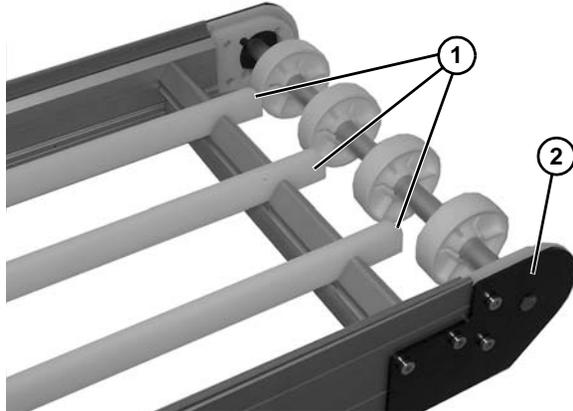

**Figure 41**
2. If necessary, rotate upward and remove bracket (**Figure 41, item 1**), from frame channel (**Figure 41, item 2**).